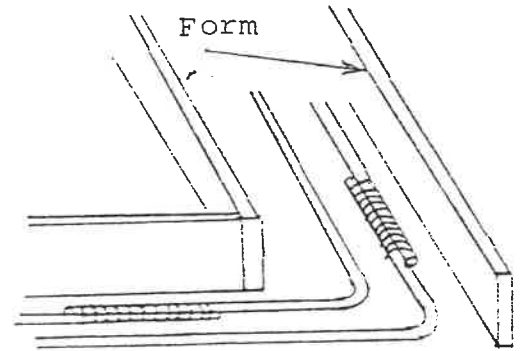

Figure 28
5. The inside form procedure is done in the same sequence as the outside forms, starting at the corners and working toward the middle of the wall. If steel rebar is required, it should be placed in the form as it is completed. The rods should be about 3 inches in from the face of the forms and bent around the corners as shown in Figure 28.